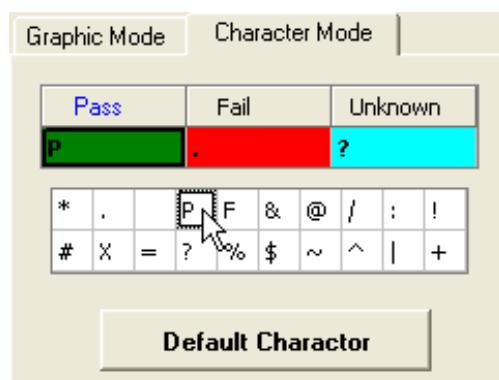

Figure 11-3 Change the Characters Setting (2)
- (2) Press the 'P' character as Figure 11-3.